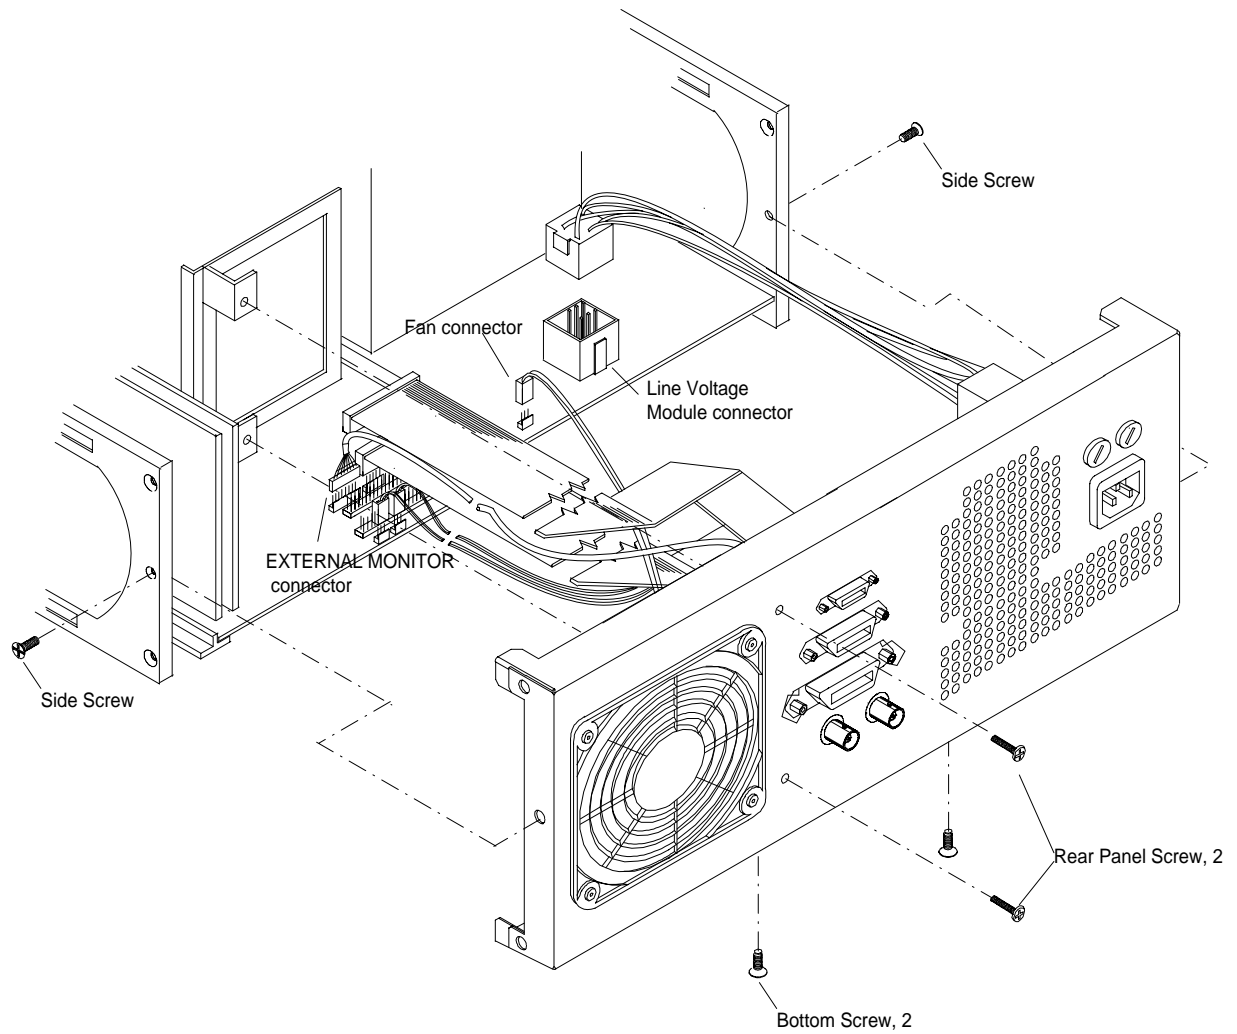

Figure 7-8. Exploded View of Rear Panel Assembly
- Step 1.*** Orient the 541XXA as appropriate to remove two screws from the bottom of the rear panel and one screw from the middle of either side of the rear panel (Figure 7-8).